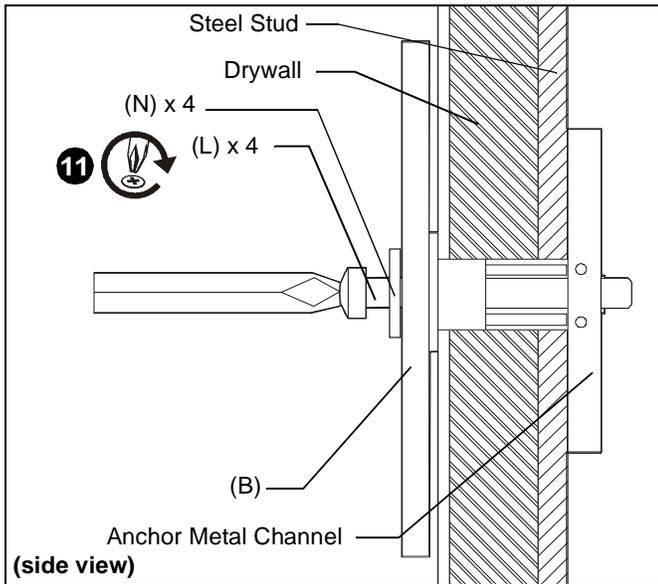

Figure 9
10. Place wall bracket over anchors and align mounting holes in wall bracket with holes in anchors. (See Figure 9)
11. Insert 1/4-20 x 1-3/4" Phillips pan head screws (L) through 1/4" washer (N), corresponding mounting hole on wall bracket and into anchor (M) and tighten until flush against mount. DO NOT overtighten! (See Figure 9)